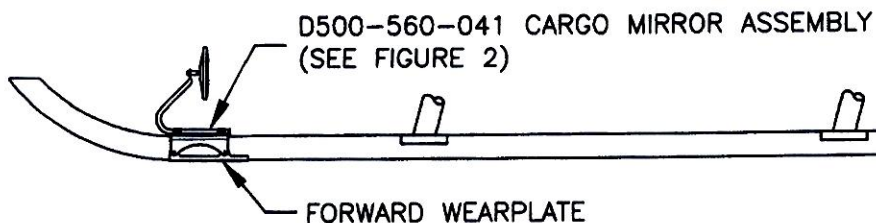

Figure 1: Location of D500-560-041 Cargo Mirror Assembly, LH Skidtube Shown.
1. Remove the 4 bolts securing the front wearplate (see Figure 1).